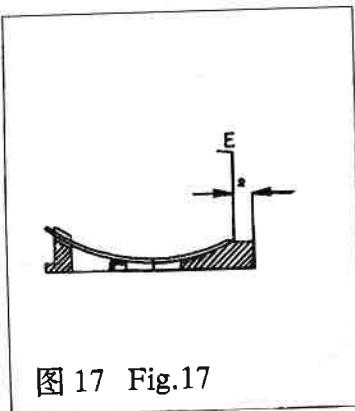

图 17 Fig.17
(4)机针摆幅 机针的摆幅决定了机针右极限的位置。要求机针运动到右极限时，针尖到针板右侧面的距离为2毫米左右(图17)，此时针尖刚好微露出右导针槽的极限点“E”(图17)。如果上述位置不正确，必须调整机针摆幅。
The right limit of needle depends on the limit of the needle throw. When the needle reaches the right limit, the needle point shall be in about 2mm distance from the right side of the needle plate (Fig.17). At this moment, the needle point is right put out of the limit point "E" of the right needle guide groove(Fig.17). If the positioning of location is incorrect, the limit of the needle throw shall be regulated.